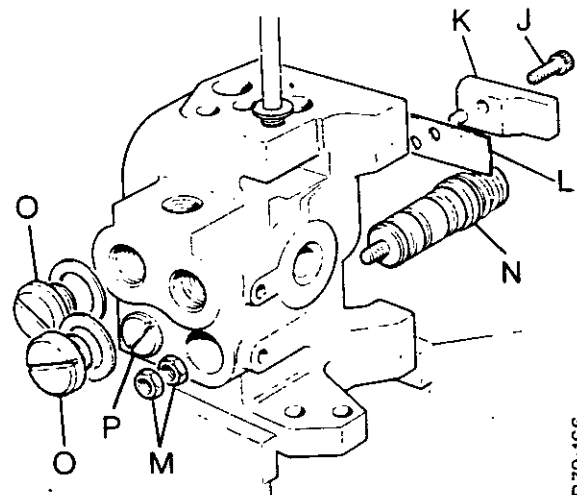

FIGURE 68. DISASSEMBLY OF THE SELECTAMATIC VALVE
1. Carefully hold the valve body in a vice as shown in Figure 68. Do not tighten the vice too much.